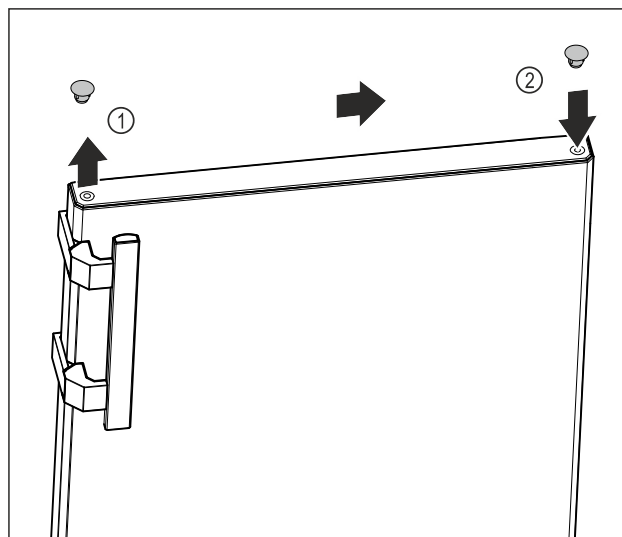

Fig. 9
- Carefully lift the cover plug on the top of the door Fig. 9 (1) with a slotted screwdriver.
- Insert the cover plug on the opposite side. Fig. 9 (2)